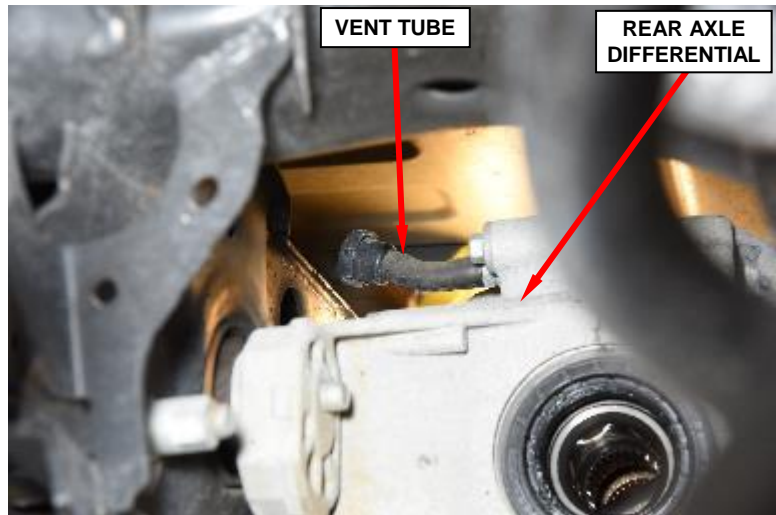

Figure 15 – Rear Axle Vent Tube
7. Remove rear axle differential vent tube (Figure 15).
28. Install the axle vent tube (Figure 15).